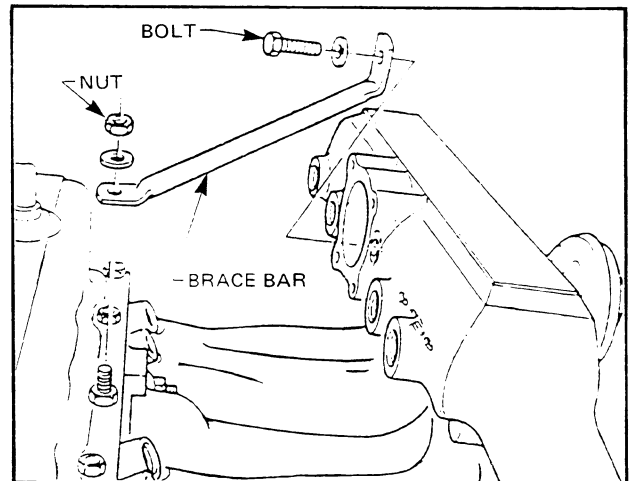

Figure 6C-86
2. Disconnect harness plug at top of valve. Refer Fig. 6C-87.